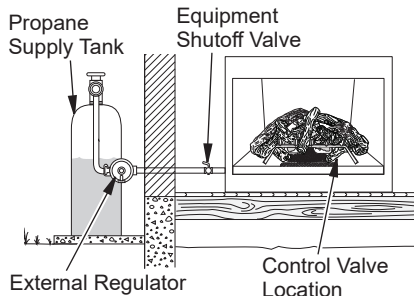

Figure 17 - Checking Gas Joints for Propane Gas
3. Check all joints from gas meter to equipment shutoff valve for natural gas or propane supply to equipment shutoff valve for propane (see Figure 17 or 18). Apply a noncorrosive leak detection fluid to all joints. Bubbles forming show a leak.
4. Check all joints from equipment shutoff valve to control valve (see Figure 17 or 18). Apply a noncorrosive leak detection fluid to all joints. Bubbles forming show a leak.